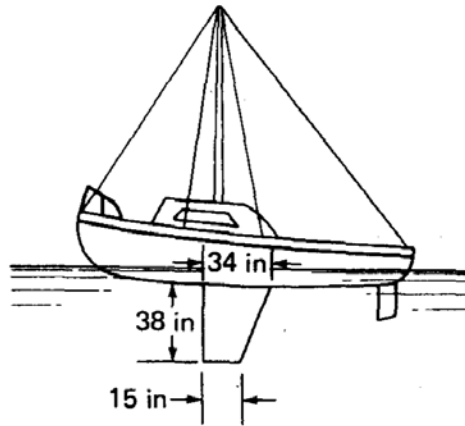

Figure 5
5. The fixed keel of a Columbia 22 sailboat is about 38 in long as shown in Figure 5. Moving in Lake Ontario at a speed of (a) 2 knots and (b) 10 knots, what is the skin friction drag  $D_f$  from the keel, respectively? The water is at 40°F ( $\nu = 1.664 \times 10^{-5}$  ft2/s and  $\rho = 1.94$  slugs/ft3). Solve this problem using rectangular plate of length 38 in and width 24.5 in, which is the average width of the keel. Transition takes place at Reynolds number of  $5 \times 10^5$ . Note: 1 knot = 1.689 ft/s. See the Appendix A at the end of this exam for the friction drag coefficient,  $C_f$ .